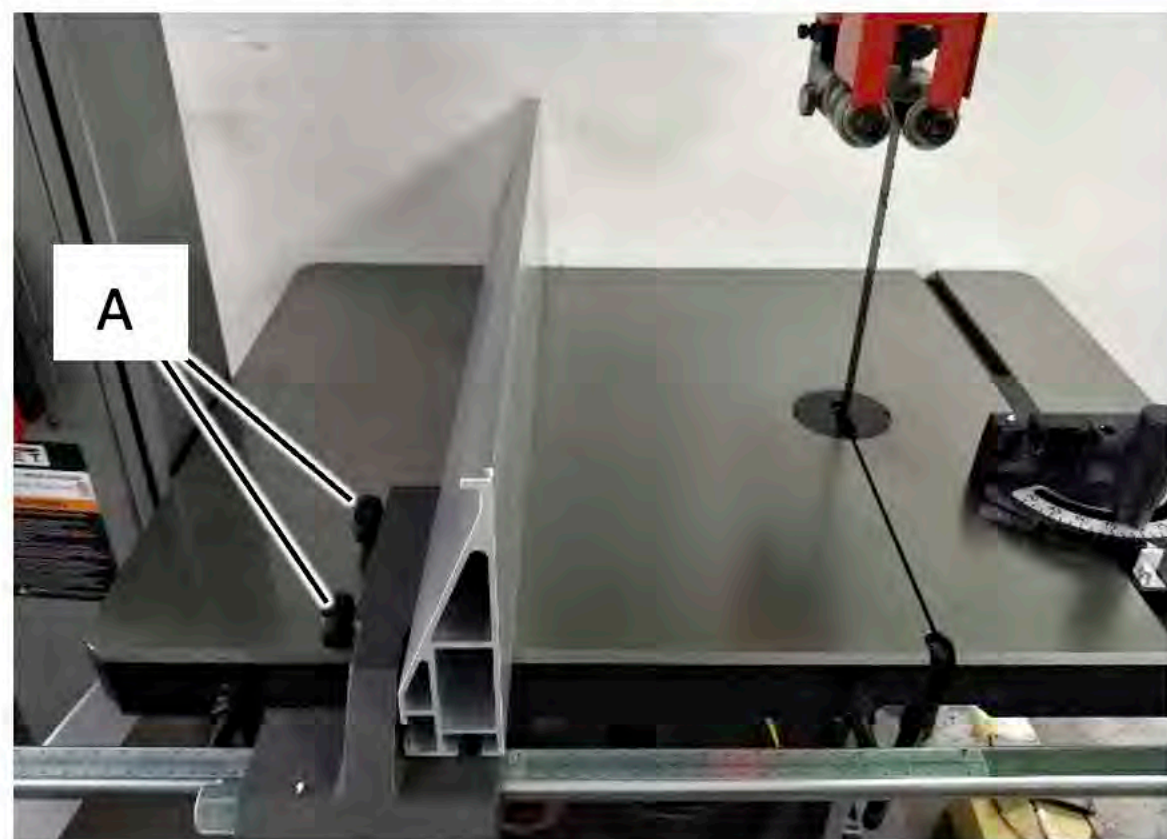
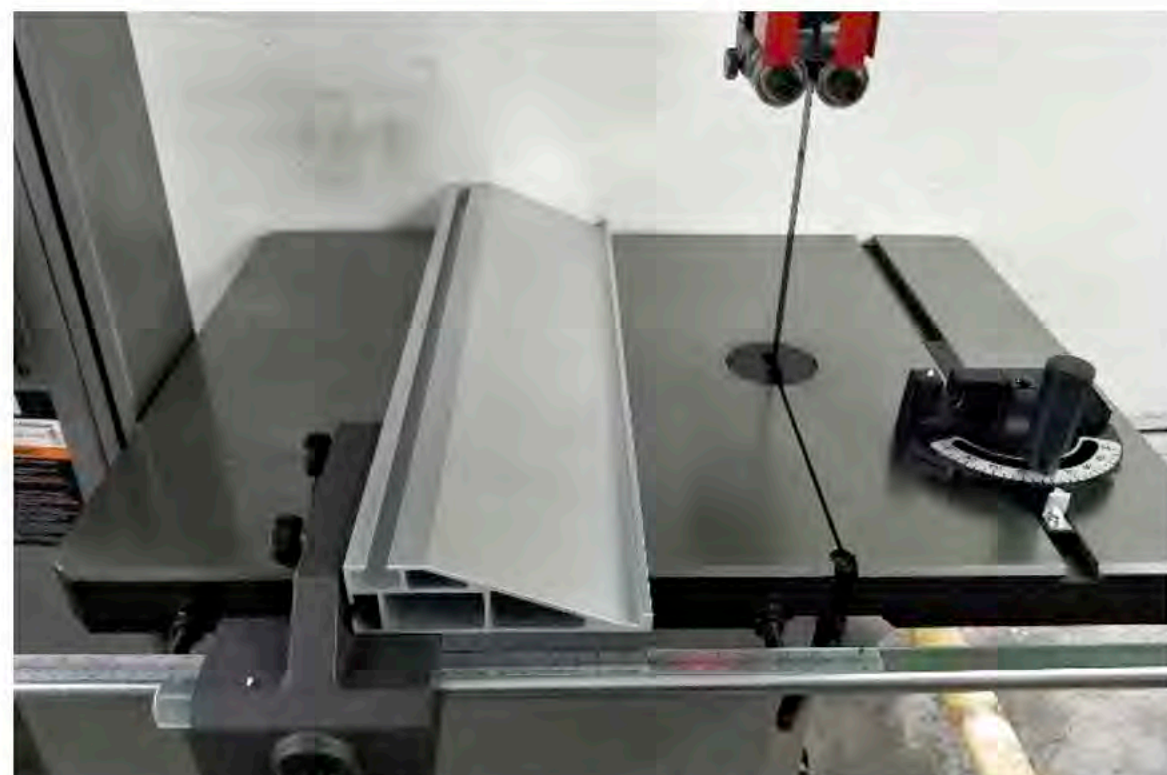

Figure 7-1: Vertical Position
Figure 7-2: Horizontal Position
Refer to Figures 7-1 and 7-2.
Loosen knobs (A) until lock bar protrudes enough on which to slide the aluminum fence plate from one end, as shown in Figure 7-1. Retighten knobs.
The aluminum fence plate can be installed in one of two positions; vertically (resaw position), as shown in Figure 7-1; or horizontally as shown in Figure 7-2.